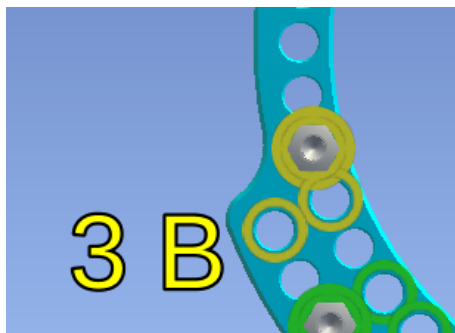

Figure 105 – Non-default mounting positions for strut 3.
2. Click on the desired strut's mounting point in the model and hold down the mouse button. While you keep a strut's mounting point clicked, the system displays all valid non-default mounting positions for this specific mounting point (refer to figure 105).